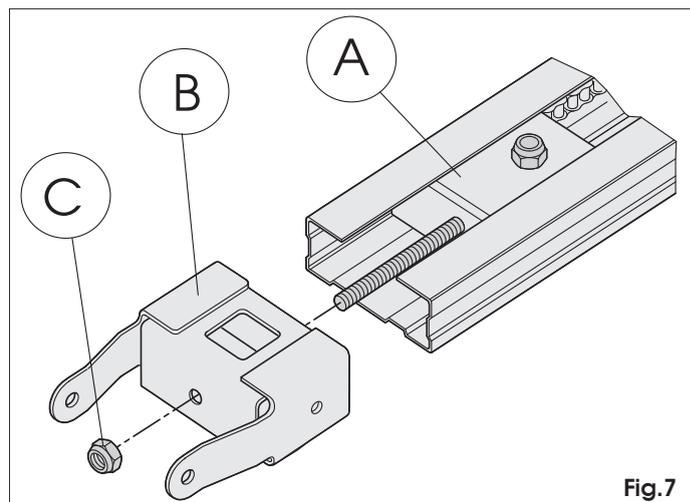

Fig.7
- 2) Slide the transmission unit (Fig. 7 ref. A) along the whole sliding guide, until it is near the front terminal, the one opposite the drive coupling.
- 3) Assemble the front fitting (Fig. 7 ref. B) to the transmission unit (Fig. 7 ref. A).
- 4) Apply slight tension to the chain, tightening the nut (Fig. 7 ref. C.).